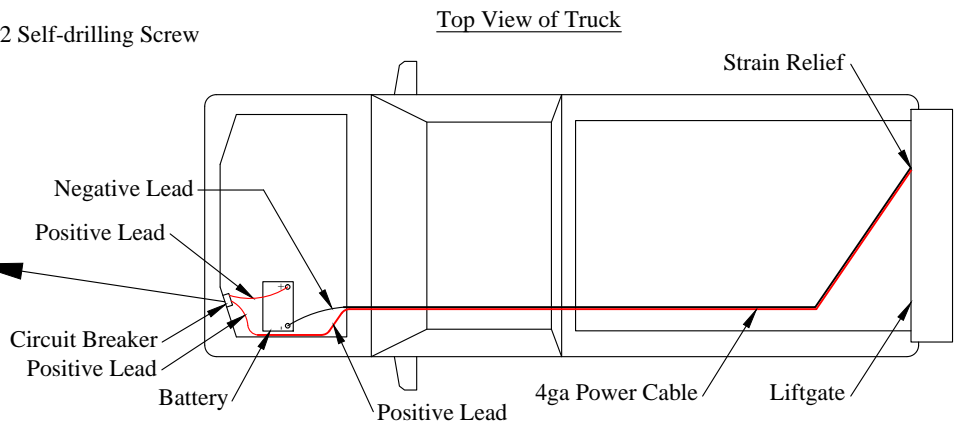

Figure 17: 2019-2023 electrical routing.
4. **Pull** the power cable (coiled up in the liftgate mainframe) carefully through the strain relief. Leave approximately two (2) inches of slack inside the liftgate mainframe (Figure 17).
6. **Route** the power cables along the frame (Figure 17) to the battery following the *Tommy Gate Recommended Electrical Wiring Guidelines*.